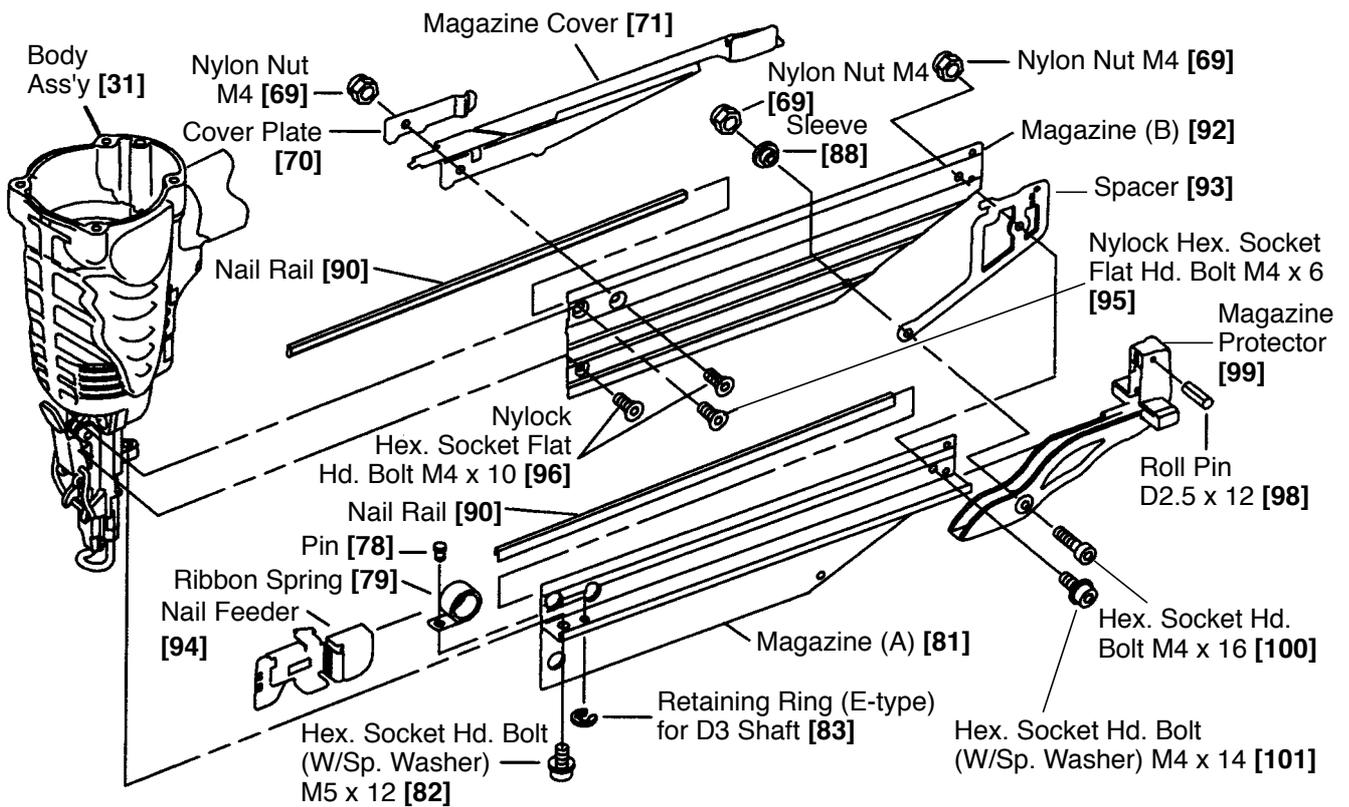

Fig. 20 Disassembly and reassembly of the magazine section
(2) Disassembly and reassembly of the magazine section (See Fig. 20.)